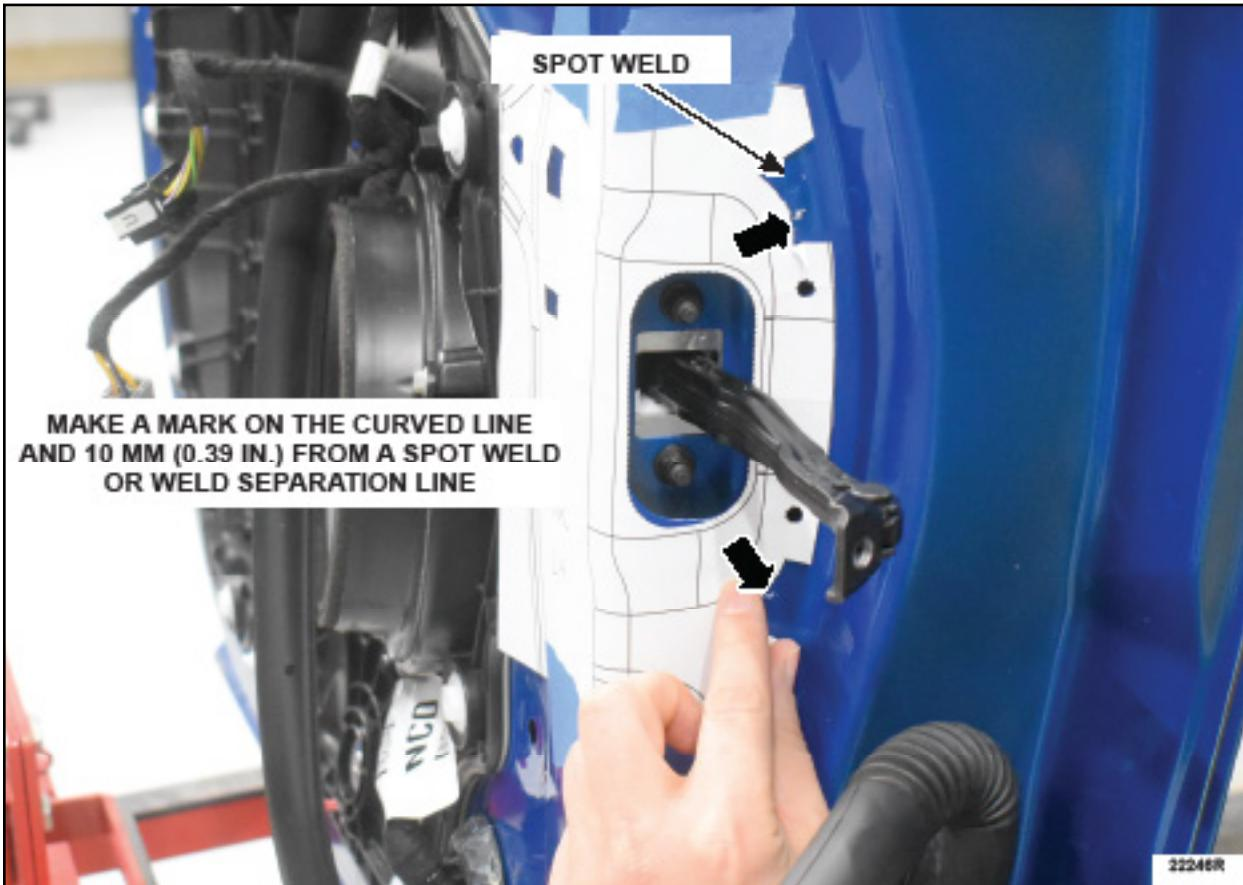

FIGURE 11
9. On the two curved lines, pointed to in Figure 11, inspect by slightly lifting the template to check for any welds or weld separation lines near the curved line. Make a mark on the curved line where it is at least 10 mm (0.39 inch) away from a spot weld or a weld separation line. See Figure 11.